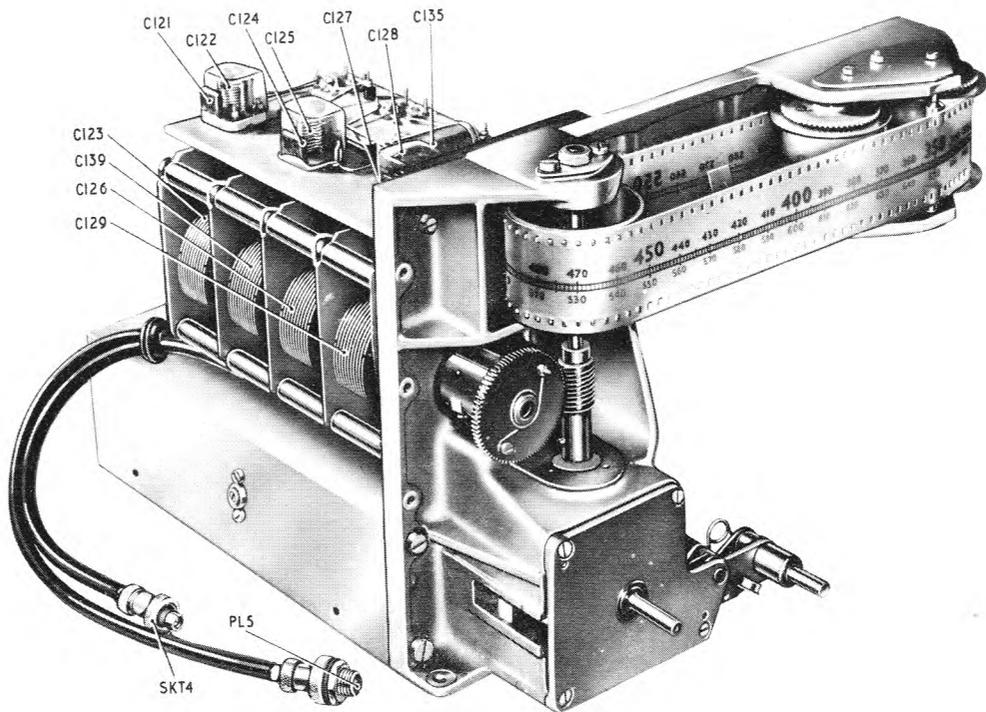

Fig. 7. Second VFO unit—front
96. Locate the trimming capacitors C122, C125 and C128 (fig. 7) mounted on the top second v.f.o. assembly and adjust them in turn for a peak reading in the RF LEVEL meter.